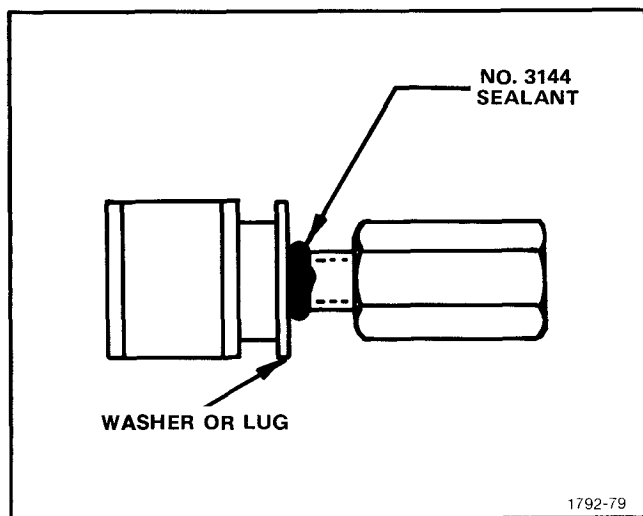

Fig. 5-26. Application of sealant to the GAIN or the 0-dB SET control bushing.
22. Install the VAR control and the GAIN control (see Figs. 5-26 and 5-27)
1. Partially unscrew Hex spacer nut and form a bead of No. 3144 sealant around the bushing threads as shown in Fig. 5-26.